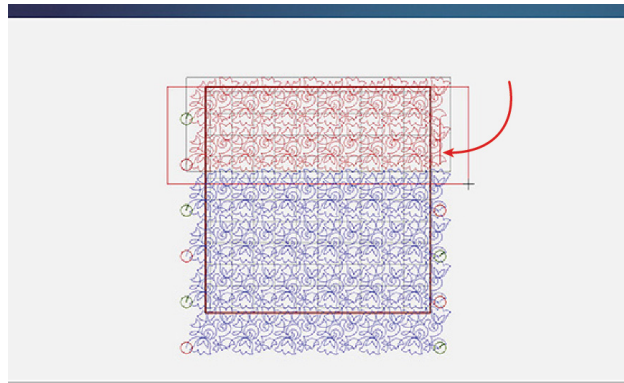

Fig. 52
15. Next, with Row 1 still selected, select or tap Row 2. Both rows become active (highlighted in red) and a stitch line forms from the end of Row 1 to the start point of Row 2 (Fig. 52). Note that rows can only be linked if they are within the same Safe Area.